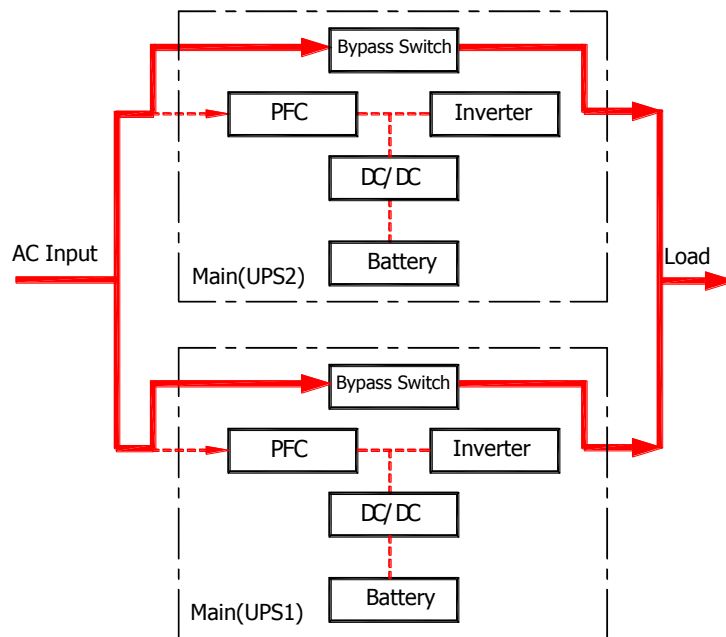

Fig.3.2-4 Working mode of overload
3、 Working mode of overload (solid line is Energy flow of UPS) as shown in Fig.3.2-4.